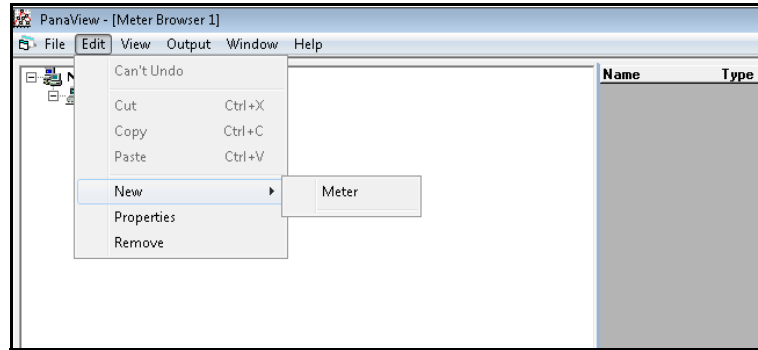

Figure 37: Add New Meter (using the Right-click option)
3. Using the right mouse button (right-click), click and highlight the communication port to which the meter will be added (see *Figure 37* below)